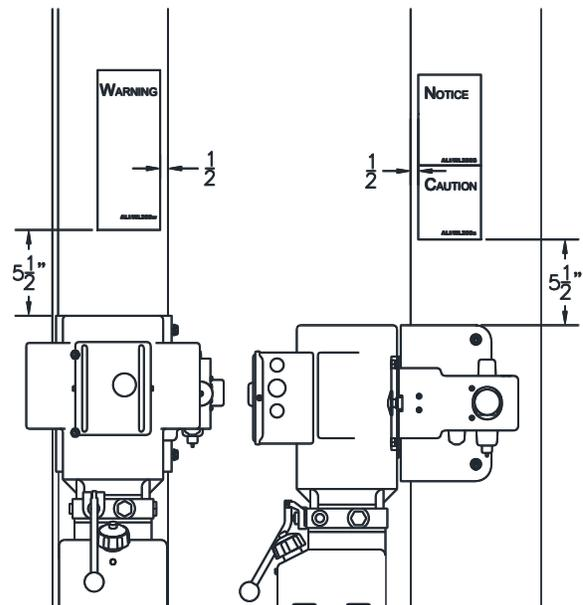

Fig 29 – Warning & Caution Decal
- 83) Place the Warning Decal, Notice Decal, and Caution Decal as shown in Fig 29.